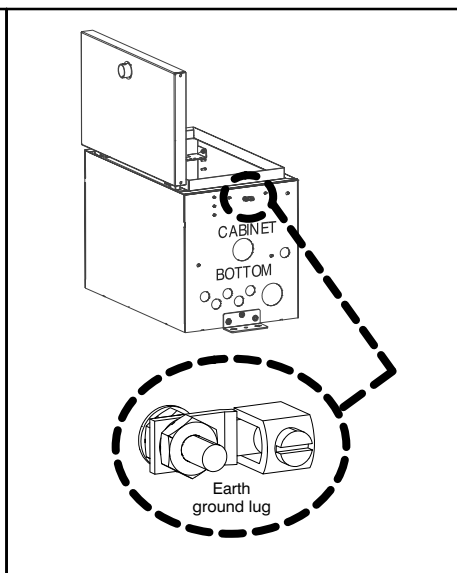

Figure 12. External Ground Lug
2. **Connect earth ground wire.** Connect the earth ground wire to the #6 AWG ground lug provided at the bottom of the cabinet (exterior, see Figure 12), per company practice.